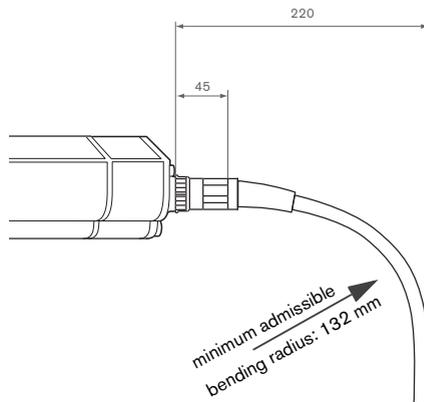

Abb. 14: Minimum bending radius of the tightening spindle connecting cable
- ▶ Observe the minimum bending radius of 132 mm (see fig. 14) for connecting cables for tightening spindles.